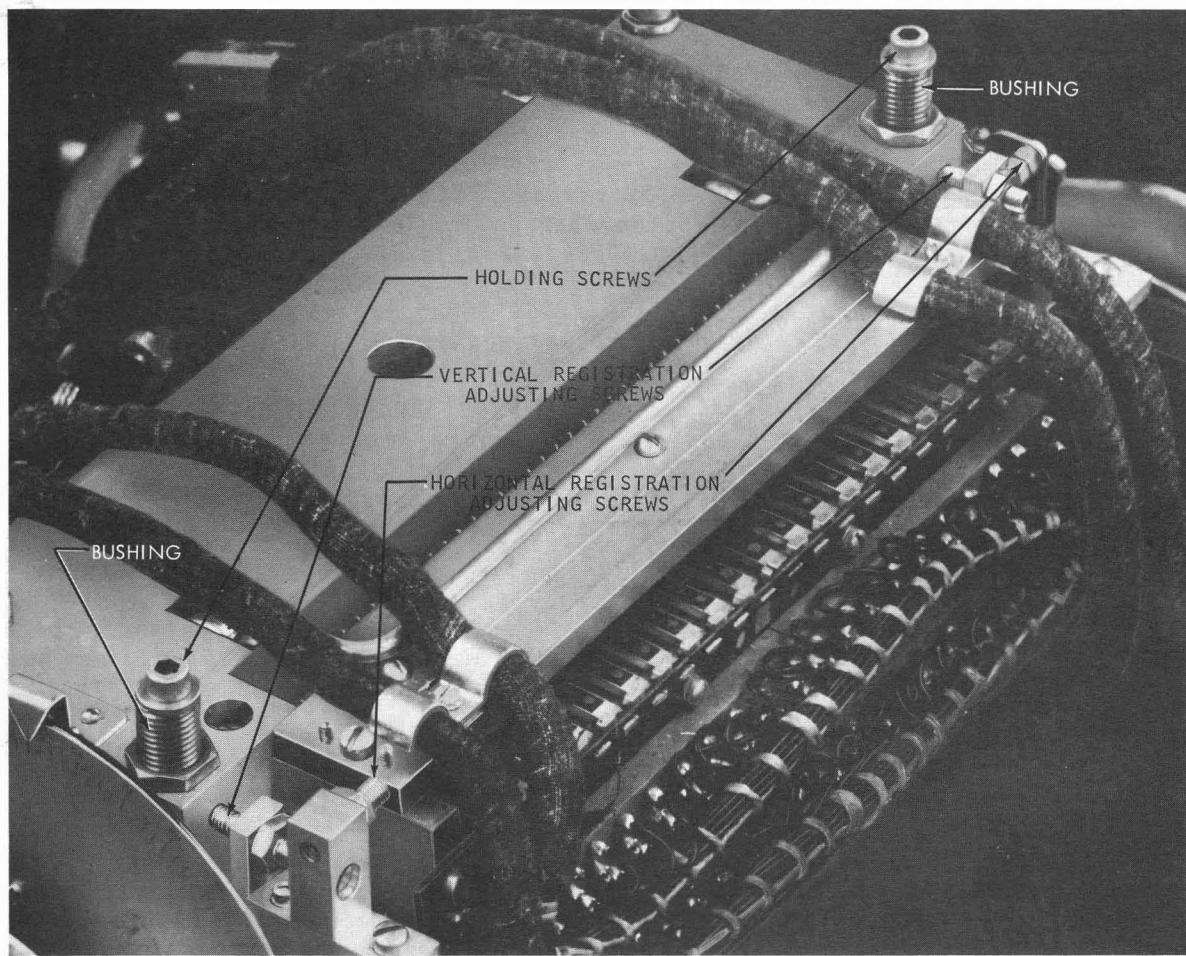

Figure 4-17. Punch Unit Adjusting Screws
a. Loosen four holding screws on top of punch unit (Figure 4-17).
b. Loosen locknut on horizontal adjusting screw and turn adjusting screw in proper direction to permit shifting punch unit in direction required to correct horizontal registration (Figure 4-17).